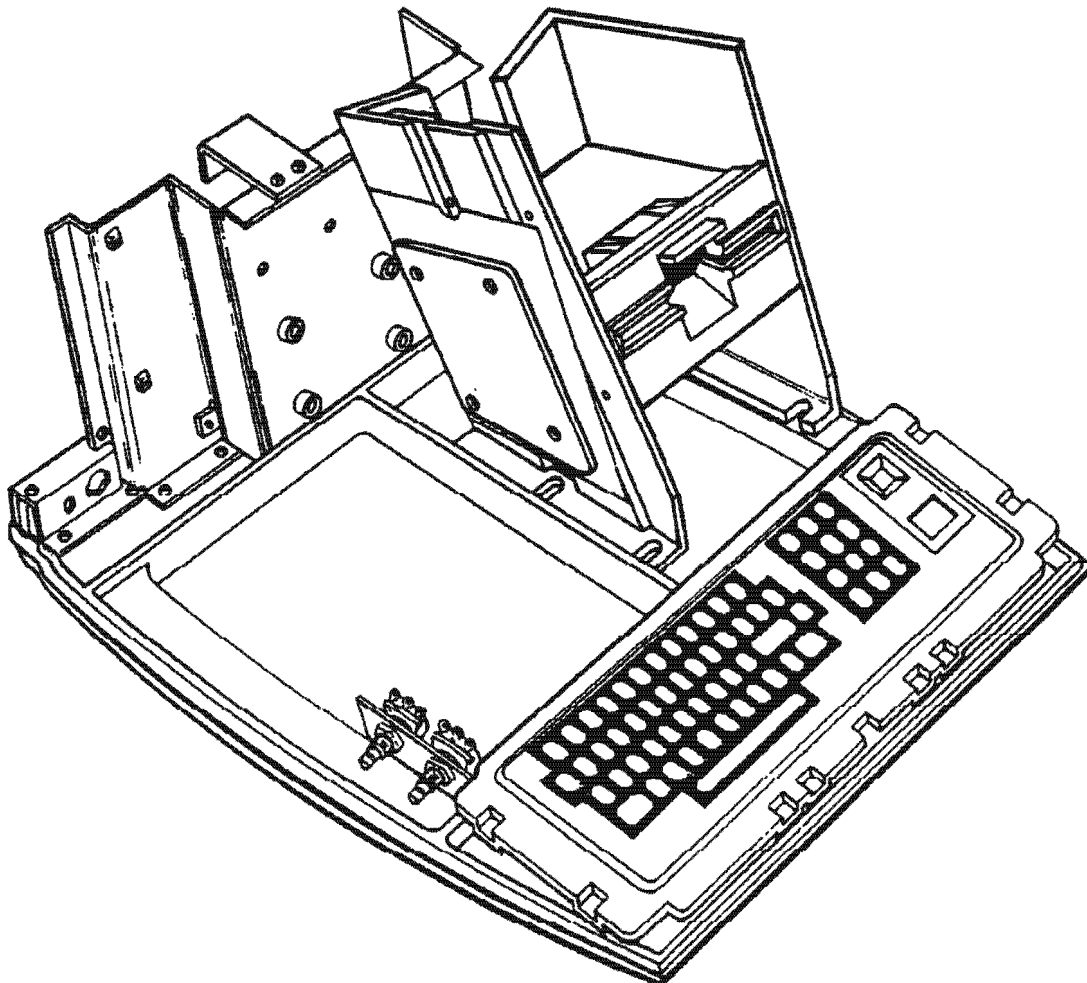

FIGURE 5. DISK DRIVE & DISK POWER SUPPLY
16. Position the Disk Drive in the bottom position between the Mounting Brackets and fasten the Drive using four #8 x 1/2" screws and four #8 flat washers. Be careful not to tighten the screws too tight. Refer to Figure 5.
17. Position the Disk Power Supply (with power connectors SK-2, 3, and 4 positioned upward) on the left Disk Mounting Bracket. Fasten using four #6 x 1/2" screws and four #8 washers. Refer to Figure 5.